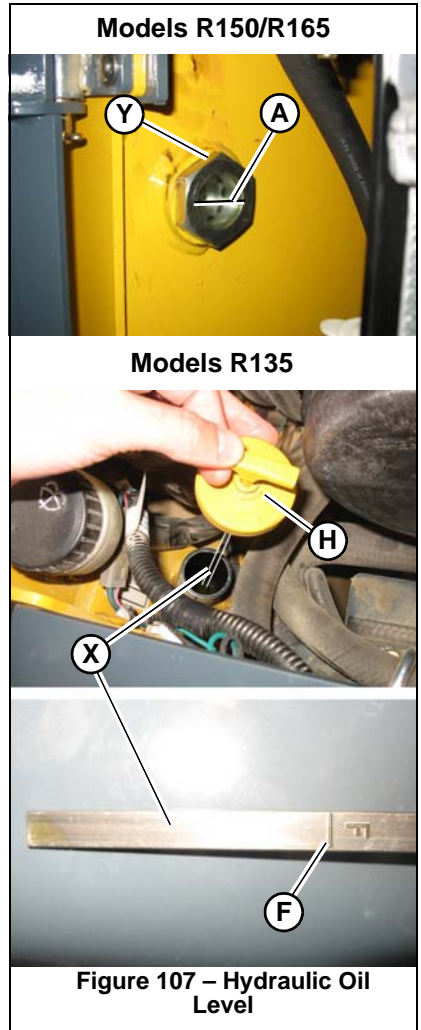
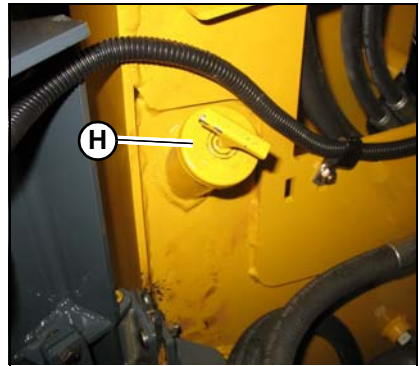

Figure 107 – Hydraulic Oil Level
Figure 108 – Hydraulic Oil Fill
- **Models R150/R165:** Locate sight gauge (Y, Figure 107) in the left engine compartment wall. The oil level should be in the middle (A) of the sight gauge.
- **Model R135:** Remove the hydraulic tank filler/dipstick cap (H).
5. If the hydraulic oil level is low, remove the hydraulic tank filler cap (H, Figure 108), located in the left engine compartment wall.
4. Slowly loosen hydraulic oil filler cap (H, Figure 108).
11. Remove hydraulic oil filler cap (H, Figure 108) and fill the hydraulic oil reservoir until the oil level is correct (Y, Figure 107).